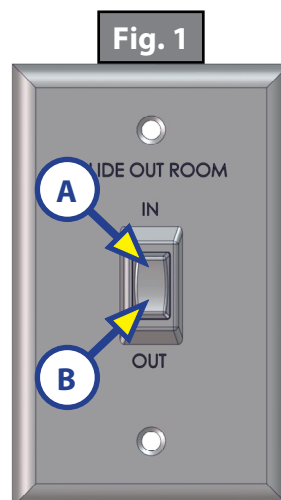

Fig. 1
4. Press and hold the IN/OUT switch (Fig. 1) in the OUT position (Fig. 1B) until room is fully extended and stops moving.
2. Press and hold the IN/OUT switch (Fig. 1) in the IN position (Fig. 1A) until the room is fully retracted and stops moving.